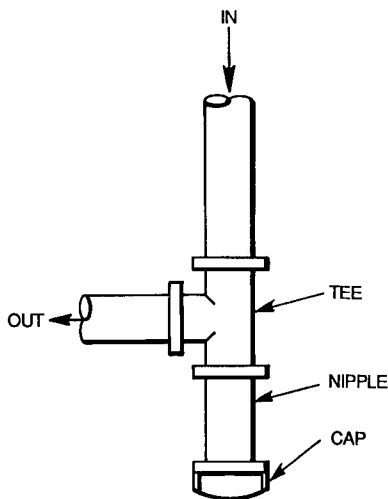

Fig. 12 — Sediment Trap
4. Install sediment trap in riser leading to heating section, per Fig. 12. This drip leg functions as a trap for dirt and condensate.